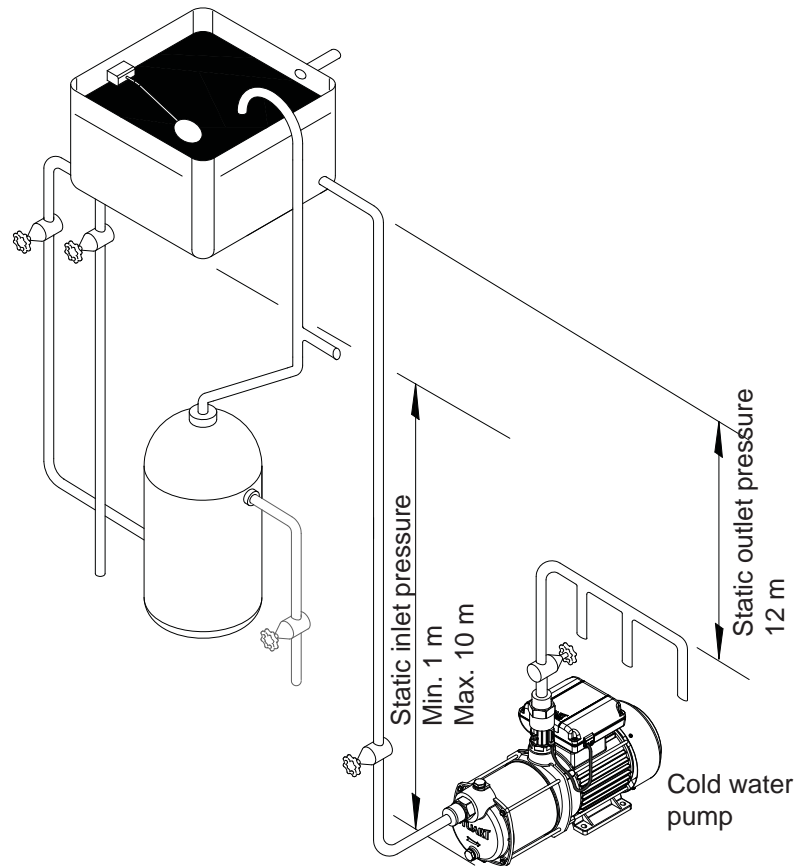

Fig. 2
- 2.16 **Static inlet pressure:** Before deciding where to locate the unit check to ensure the static inlet head between pump and cold water level (Figs. 2 & 3) is at least 1 metre and does not exceed the max inlet head of 10 metres.
- 2.20 **Static outlet pressure:** The static outlet head is indicated in Figs. 2 & 3.